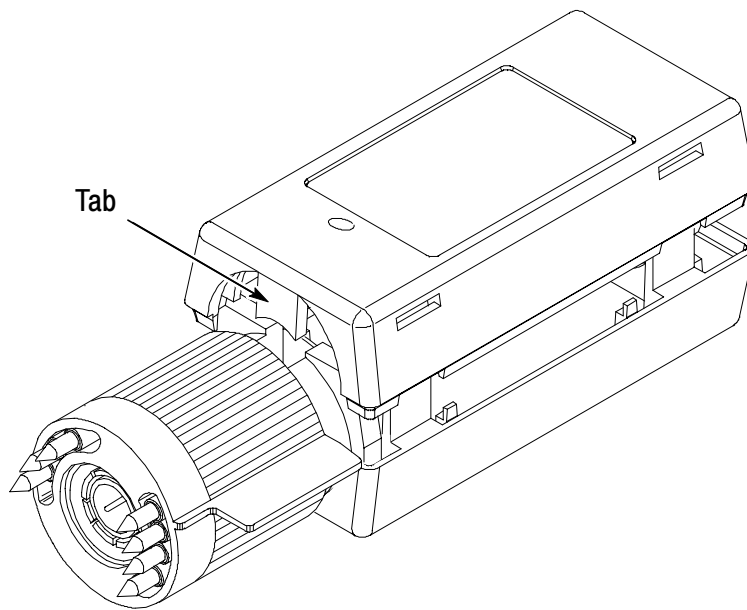

Figure 10: Replacing the compensation box cover
1. Align the TEKPROBE interface and the strain relief notches with the tabs on the cover. Refer to Figure 10 on page 25.